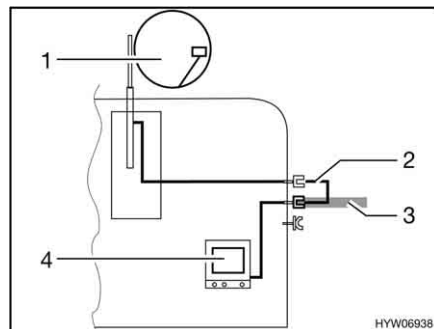

Fig. 128 TV inside the vehicle
- TV inside the vehicle (Fig. 128,4): Connection to roof antenna (Fig. 128,1) with connection cable (Fig. 128,2)
- TV inside the vehicle (Fig. 128,4): Connection to external antenna (Fig. 128,3)